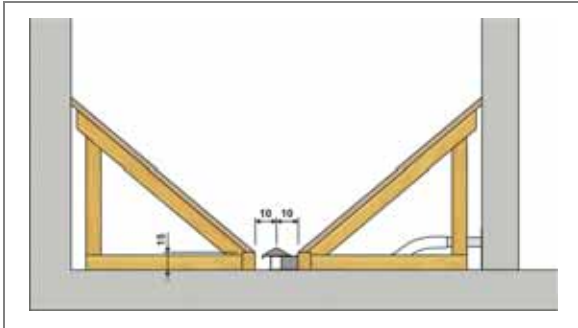

Fig.1: Store for a delivery unit with a suction probe
- ☞ A distance of 8" (20 cm) should be maintained between the cross-pieces and the suction probe should be centrally positioned. (see Fig. 1)